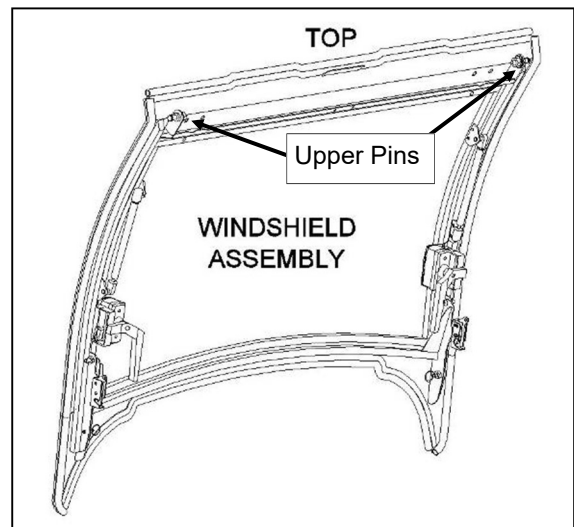
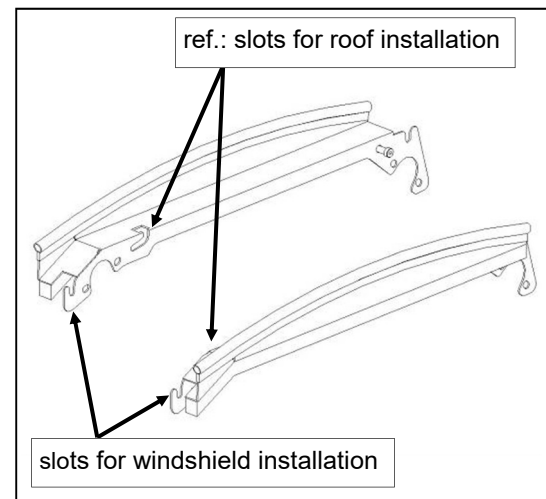

Fig. 2.1 (contents of windshield kit)
Fig. 2.2 (description of slot usage)
2.1 Fig. 2.1 shows the only item included in the windshield kit. Note: inside view of windshield assembly shown.
2.2 Orient the windshield as shown in fig. 2.1. Hook the two upper pins into the receiving slots in the front of the upper mounts (see fig. 2.2). Snap the lower two latches onto the pins on the inside of the front mounts until they are fully engaged. Two (2) clicks means fully engaged. If adjustment is needed, use a 3/16" Allen wrench and a 1/2" open ended wrench to reposition the pin in the slotted front mount.